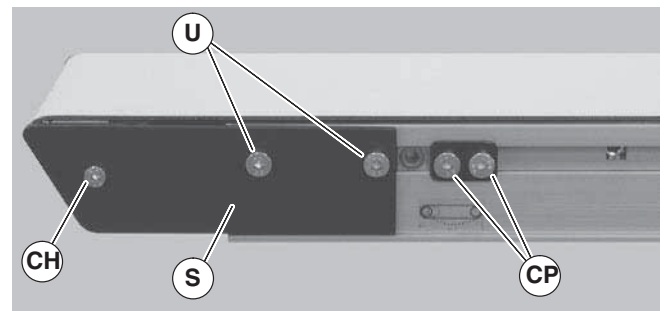

Figure 54
3. Slide bearing rods (Figure 54, item CI) out side of conveyor and replace bearings (CJ) as necessary.